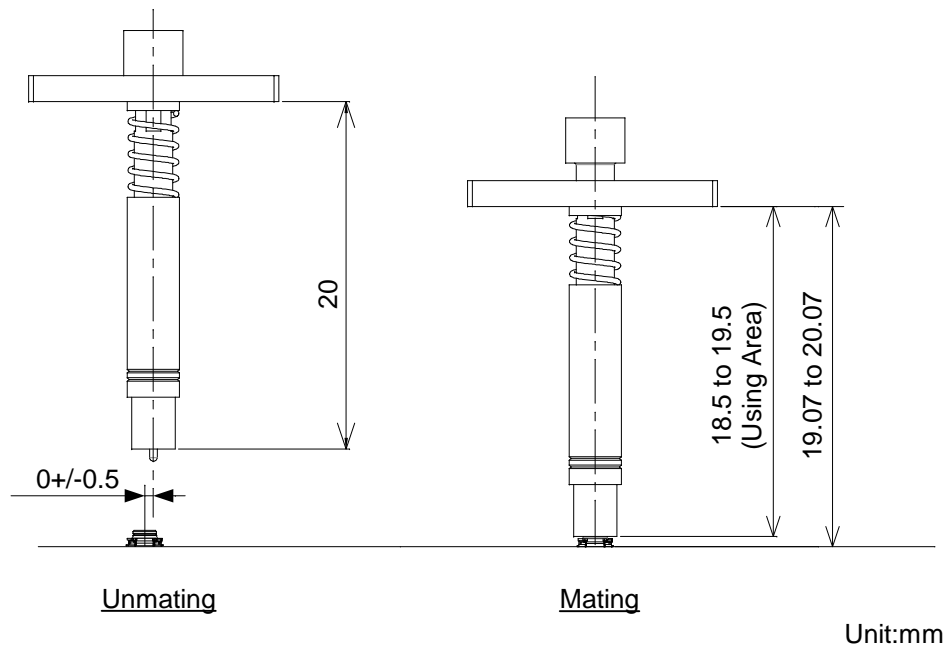

Figure 7. Acceptable Engagement range to SWG type receptacle
3.2.2 To get 10dB or higher isolation (up to 11GHz), the engagement strokes from the flange to the tip of probe is 18.5mm to 19.5mm (Figure 7).